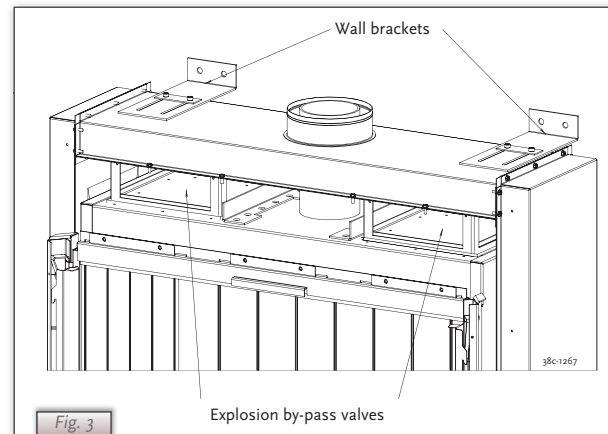

Fig. 3
- ▬ Secure the appliance against the wall using the wall brackets and rawplugs supplied (see Fig. 3).